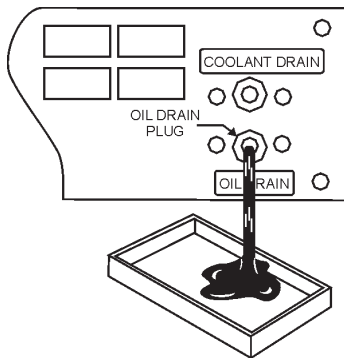

Figure 29. Engine Oil Drain Plug
1. Remove engine oil drain plug located at the bottom of the generator enclosure (Figure 29) and drain oil from crankcase. For best results drain oil while engine is warm. Reinstall oil drain plug, and add engine oil as specified in Table 5. Crankcase oil capacity is 2.64 qts. (2.5 liters).